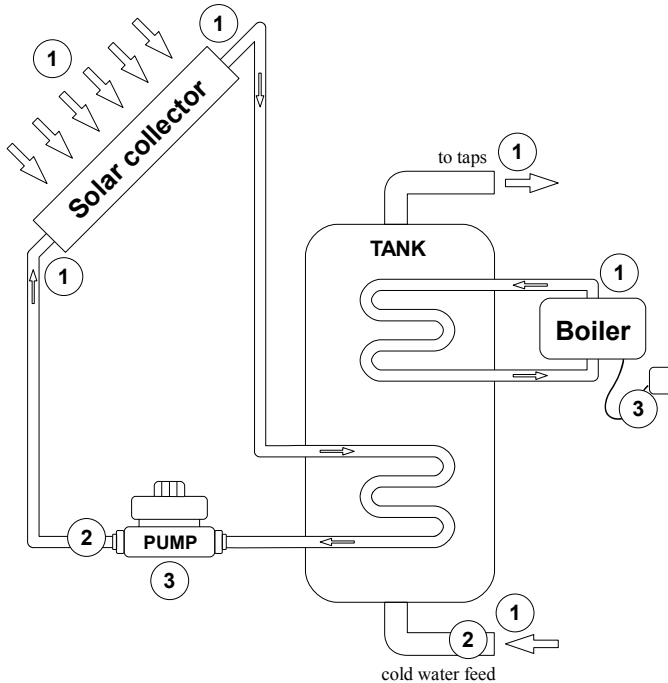

Figure 3.49. Map of monitored physical quantities in water heating system
The system consists of three types of sensors: temperature (1), flow (2) and power (3). Locations of measurement points in the system are shown in Figure 3.49.